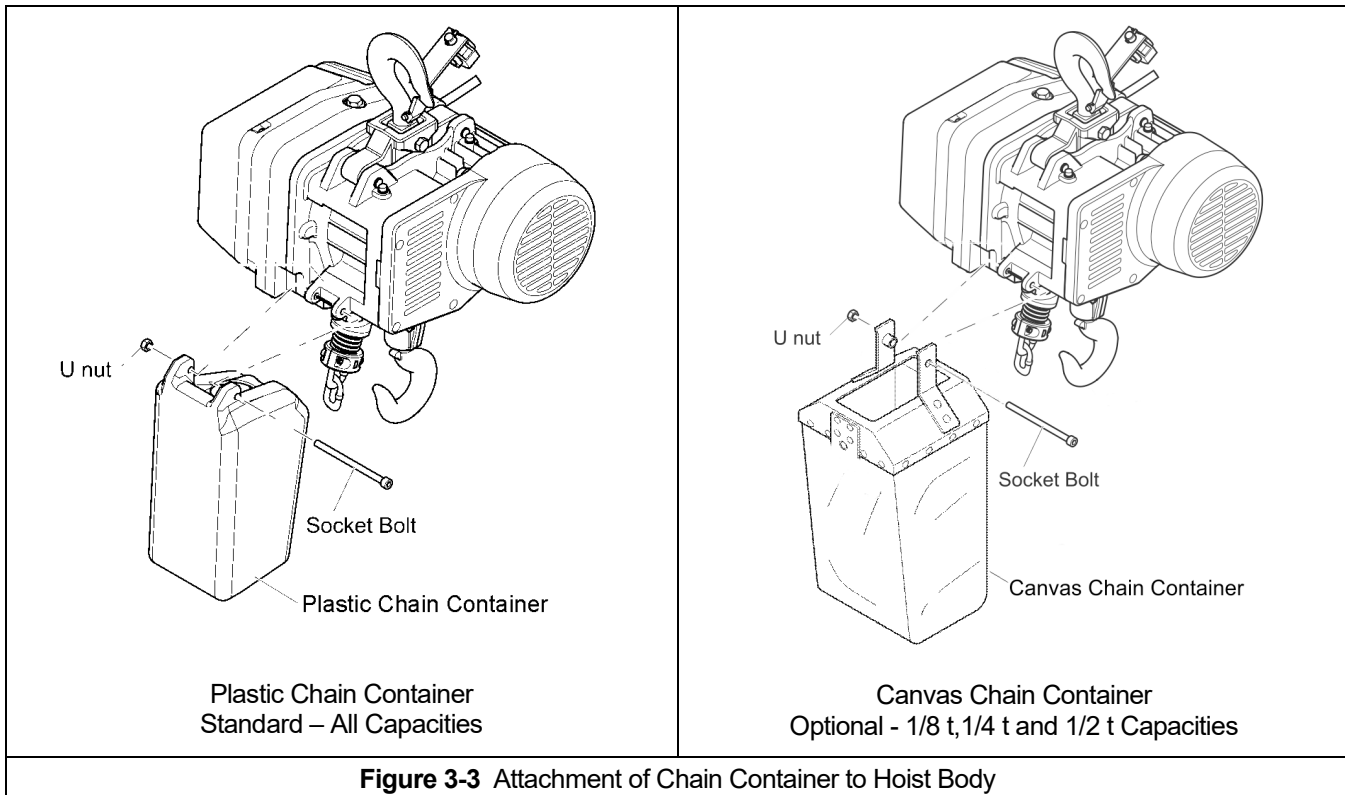

Figure 3-3 Attachment of Chain Container to Hoist Body
3.2.2 Standard Plastic Chain Container (all capacities) or optional Canvas Chain Container (1/8 t, 1/4 t and 1/2 t capacities only). When the optional canvas chain container is selected, fully unfold and install it on the hoist body as shown in **Figure 3-3**. The free end of the chain is not attached to the hoist body and the chain stopper is installed on the third link from the free end (see **Figure 3-1**). To place the chain into the chain container, feed the free end of the chain into the container. Take care to avoid twisting or tangling the chain. NEVER put all the chain into the container at once. Lumped or twisted chain may activate the down limit switch and stop the hoist during lowering.